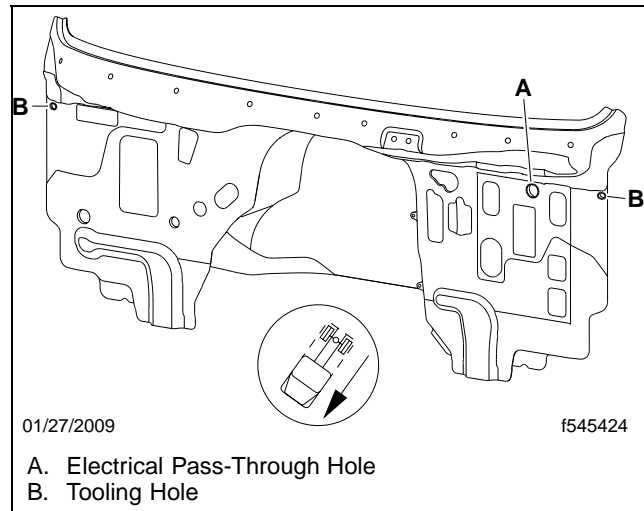

**Fig. 10, Removing the Insulation**
18. Make a vertical cut 3-1/2 inches (9 cm) from the left edge of the frontwall foam rubber insulation. This cut should line up with the junction of the kick panel and the insulation. The upper cut will be above that area where the carpeting on the insulation stops. Remove the insulation from around the SAM chassis connections. See **Fig. 10**.